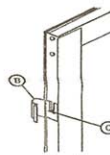

Figure 2
STEP 3: You may now remove the shipping clips by removing screws (A). This will allow door to swing open. With door in open position, remove shipping clips (B) from door jamb by loosening screws (C) and disengaging clip, retighten screws. (FIG. 2) Clips may now be thrown away. Use remaining installation screws in holes exposed in Z-bar by removal of shipping clips. Open door and insert the flat head wood screw in holes located on inside of Z-bar jamb behind hinges. **NOTE: If there is a gap between z-bar jamb and door opening be sure to use shim blocks at screw locations for support.** If you removed the sill expander, replace it at this time with the door open.